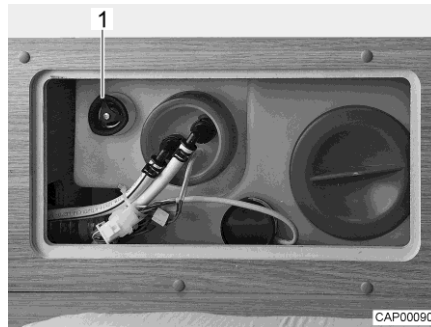

Fig. 91 Water tank with rotary handle
- Turn the rotary handle (Fig. 91,1) on the water tank in an anticlockwise direction as far as possible beyond the resistance to fully open the drainage opening.